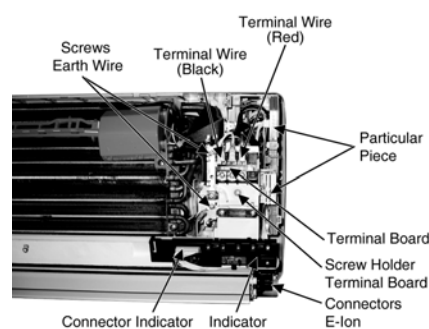

Fig. 3
- Release the Indicator by detaching the CN-DISP and CN-LED, and then remove the Indicator from the 2 tabs. (Fig. 3)
- Release the 2 screws for the earth wire. (Fig. 3)
- Pull out 2 terminal wires (Red and Black) from the Terminal Board. (Fig. 3)
- Detach the connector Indicator and release the Indicator. (Fig. 3)
- Release the 2 Particular Piece. (Fig. 3)
- Release the screw Holder Terminal Board. (Fig. 3)
- Release the 2 Connector E-Ion. (Fig. 3)